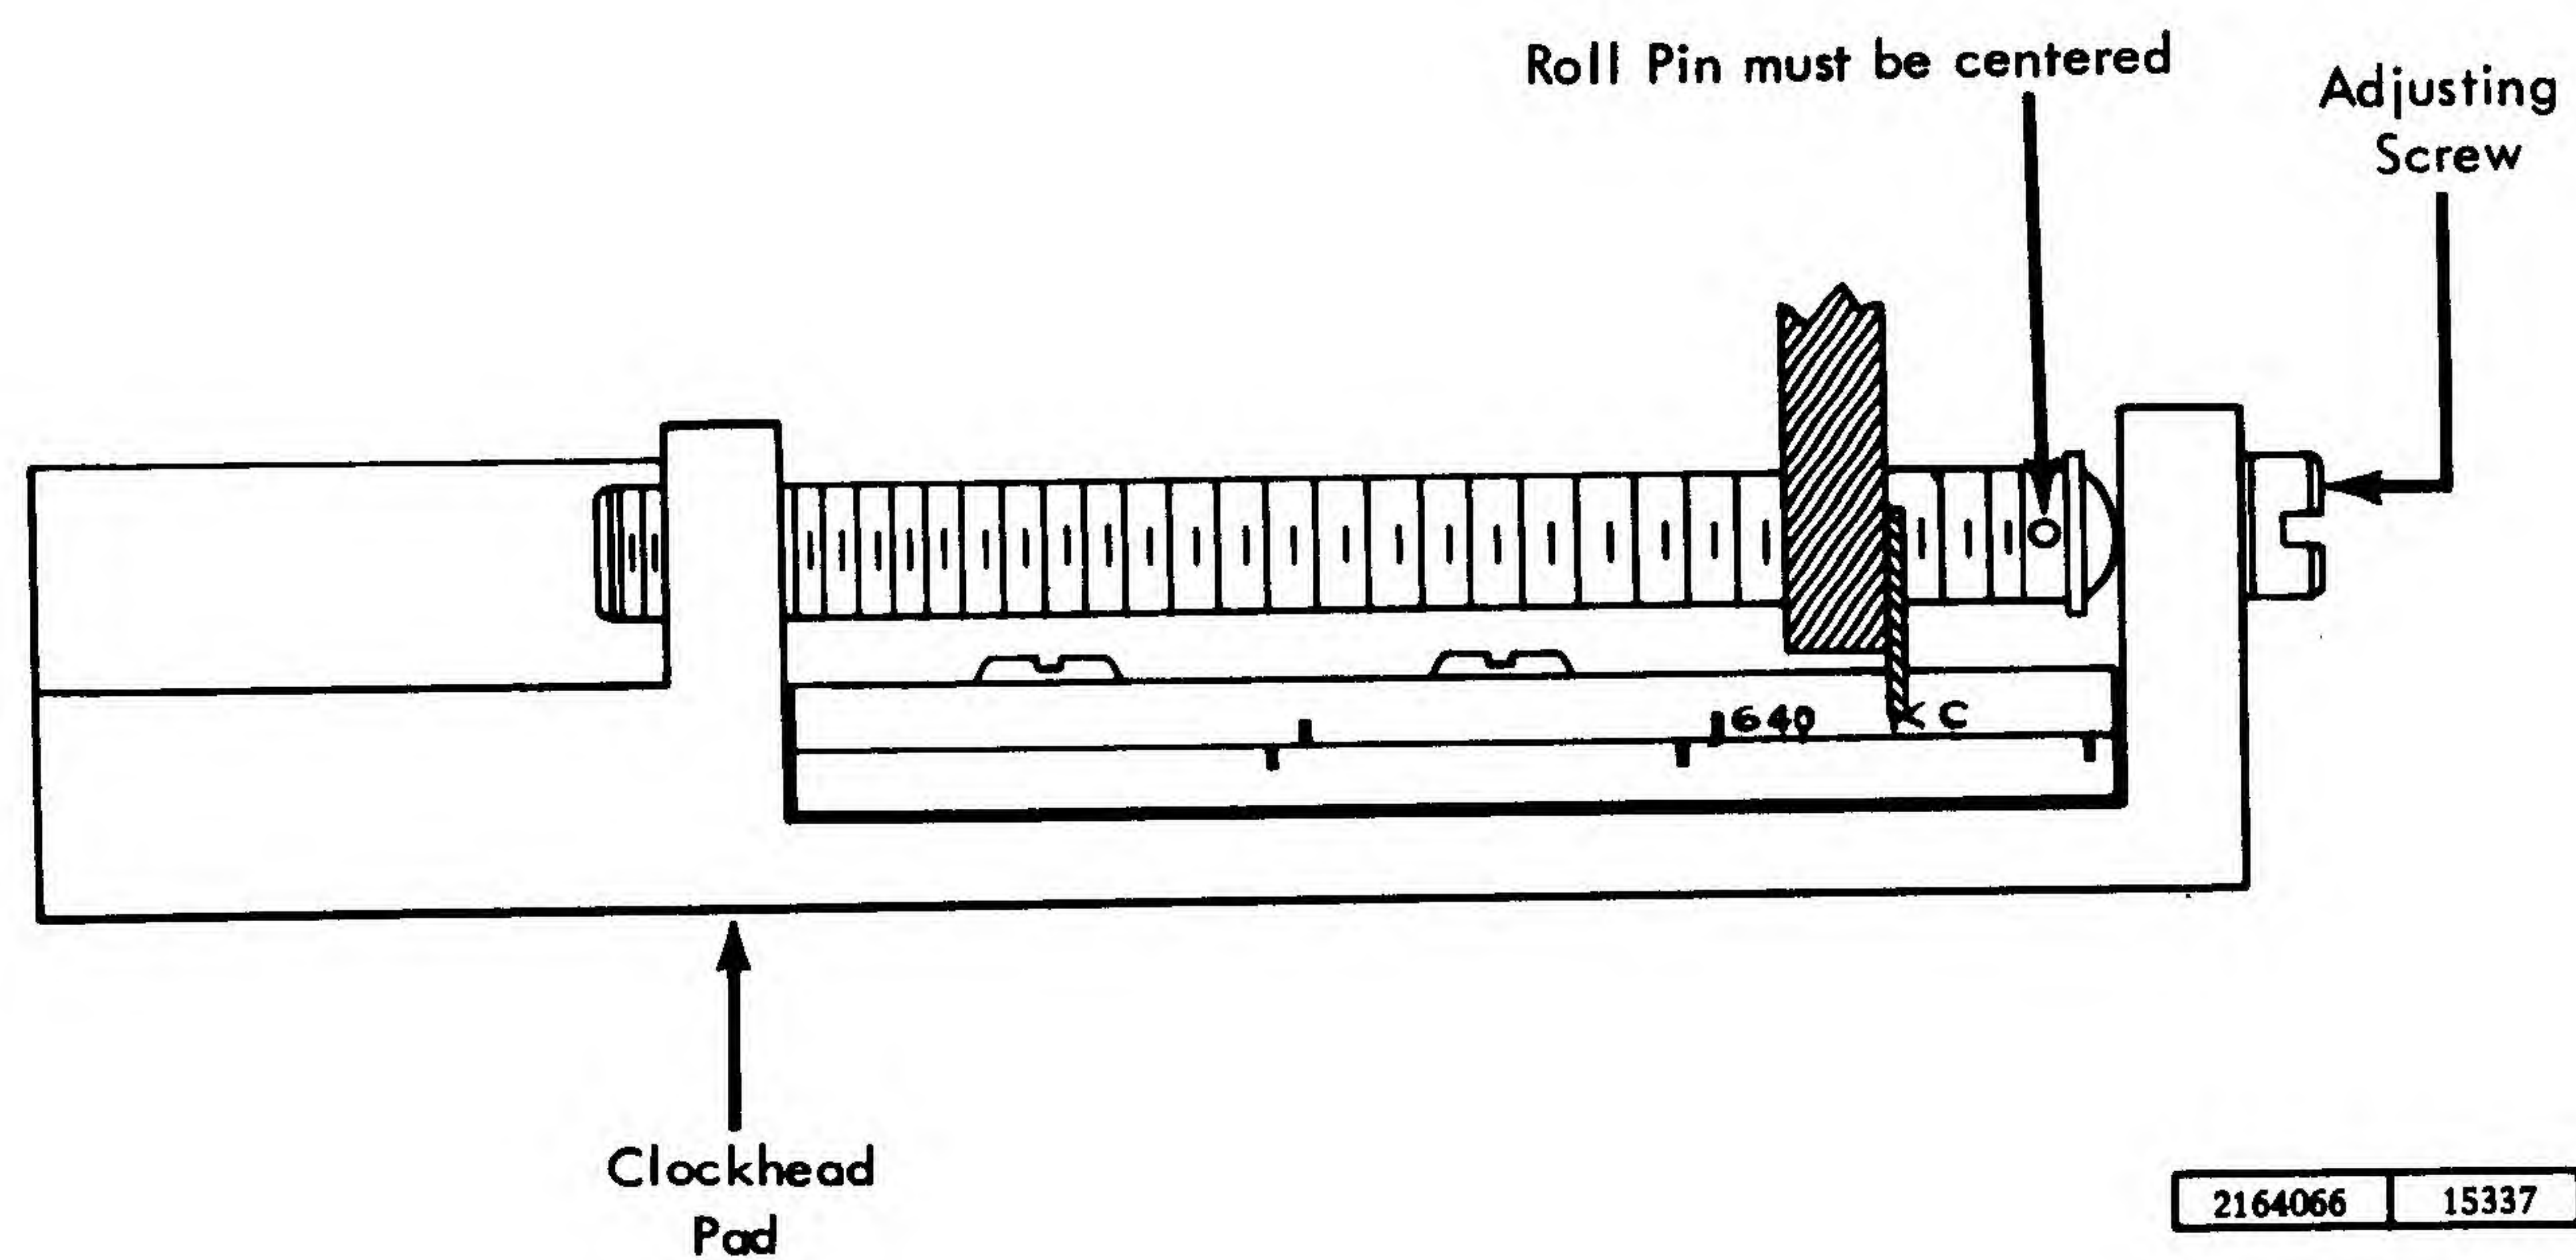

Figure 3-32 Clock Head Adjustment
2. Replace clock head assembly by slipping over locating pins. By means of the adjusting screw (Figure 3-32), adjust clock head as far in as possible and install rear mounting screw. Check for proper head to disk clearance (0.080" + 0.020"). Back off clock head to extreme out position and install front mounting screw.